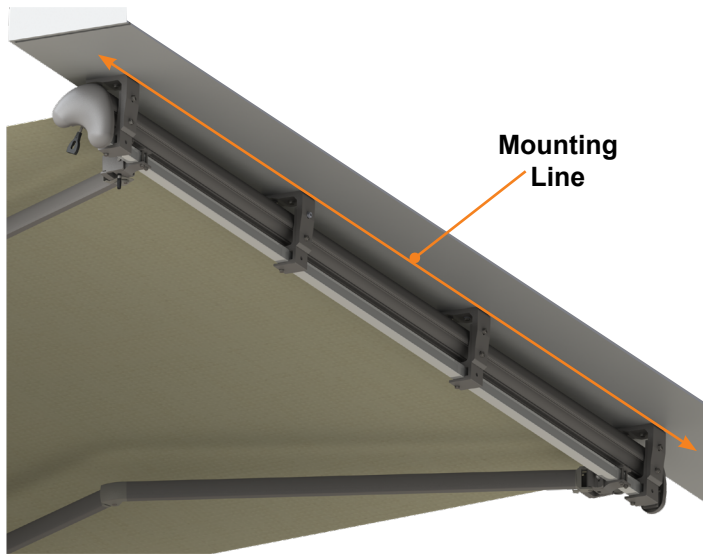

Fig.11
When installing the Lumina awning, measurements will be made and recorded based off a benchmark defined as “the mounting line.” When installing to the underside of an overhang or soffits, this line corresponds with the back edge of the “L” soffit brackets (Fig. 11).
**NOTE:** Figure 11 depicts the “F” and “L” brackets and awning installed as an example.